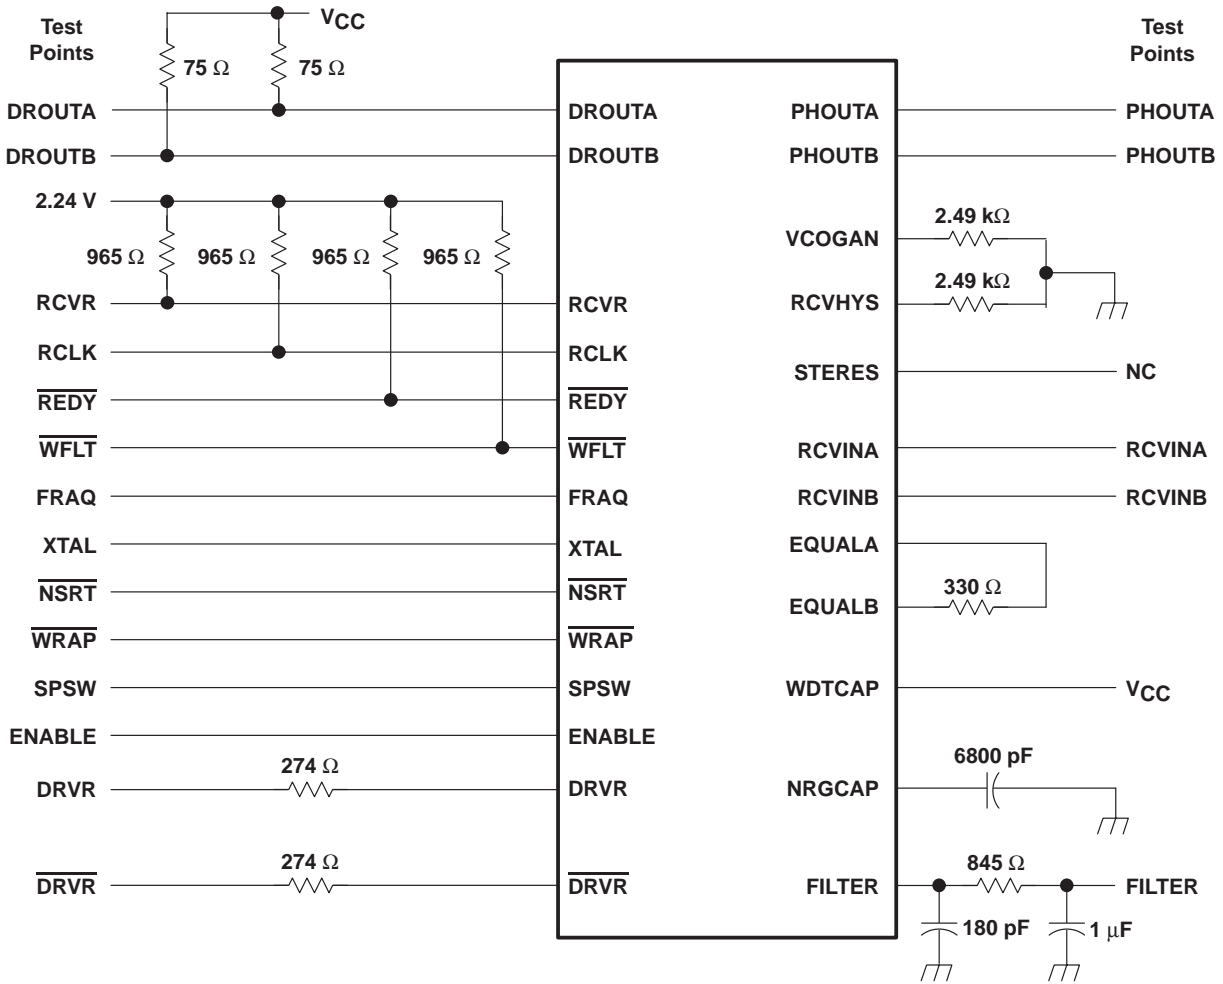
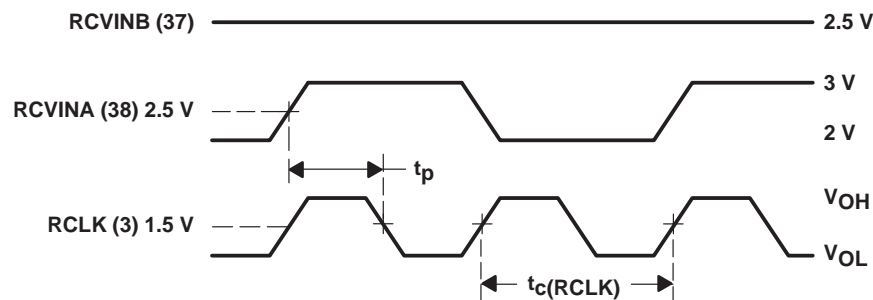

Figure 8. ac Test Circuit
Figure 12. Phase-Detector-Gain Test Timing
transmitter (see Figures 8 and 9)
RCLK and RCVR (see Figures 8 and 10)
loop parameters (see Figures 8, 11, and 12)
15. The circuit of Figure 8 is used to measure phase-detector gain with I(FILTER) injected at the filter test point. Figure 12 shows the relevant timing. With the TMS38054 in phase lock, the propagation delay (t_p) between RCVINA positive transition and RCLK negative transition is measured. A value t_{p1} is seen when I(FILTER) = I(FILTER)₁, and a value of t_{p2} is seen when I(FILTER) = I(FILTER)₂. The phase-detector gain is then calculated as (I(FILTER)₂ - I(FILTER)₁) ÷ (t_{p1} - t_{p2}). The result is in μA/ns (see external filter section).
data recovery (see Figures 8 and 13 and Note 16)
energy detect ($\overline{\text{REDY}}$) (see Figure 8 and Note 17)